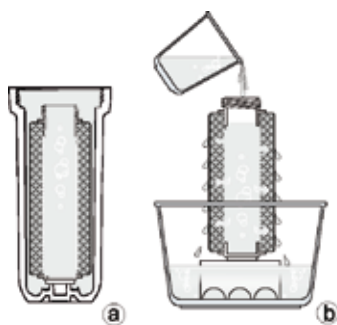

Figure 3.
Install the cartridge into the housing, having removed a decorative cap (See Figure 1, item 3) and fill the housing with prepared solution (approximately 0,6 litres) (See Figure 3 a). Leave it for 10-12 hours, after that take out the cartridge and pour out the used solution. Put the cartridge into a sink vertically and pass the remained solution through it, filling the solution inside the cartridge through a threading spout. Let the solution drain off completely (See Figure 3b). Wash off the rest of the solution from a cartridge in two stages.